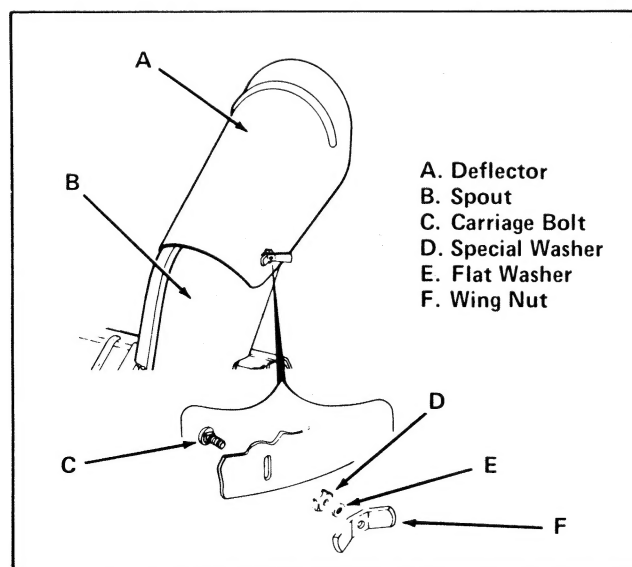

Figure 20. Install Deflector
12. Install spout deflector (item A, figure 20) to spout (item B) by using carriage bolt (item C) and special washer (item D). Install special washer so tips curve toward the deflector.